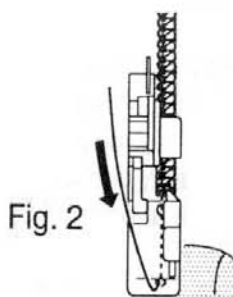

Fig. 2
Turn it toward "7" if loops hang off the edge. (Fig.2)
NOTE: When overlocking and trimming at the same time, cut the fabric along the new stitching line for about 3 cm, before turning the fabric. Fig. 2.
3. Insert the cord through either the front or rear hole (according to the operation, see diagrams Figures 2 and 3), in the presser foot and pass it under and to the rear of the foot.
FOR JOINING SHOULDERS OR SLEEVES, pass the cord through the front hole, ensuring that it is fixed between the left and right needle threads as it is guided through the front hole. (Fig.2).